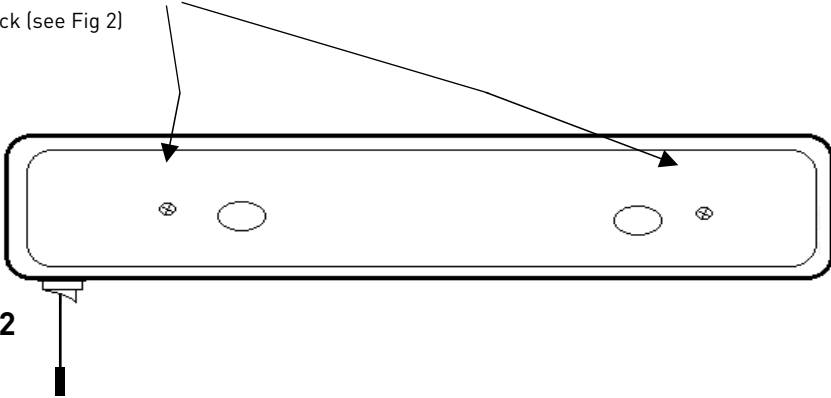

Fig 2
- Remove the two screws at the rear of the fitting and remove the access plate to expose the terminal block (see Fig 2)